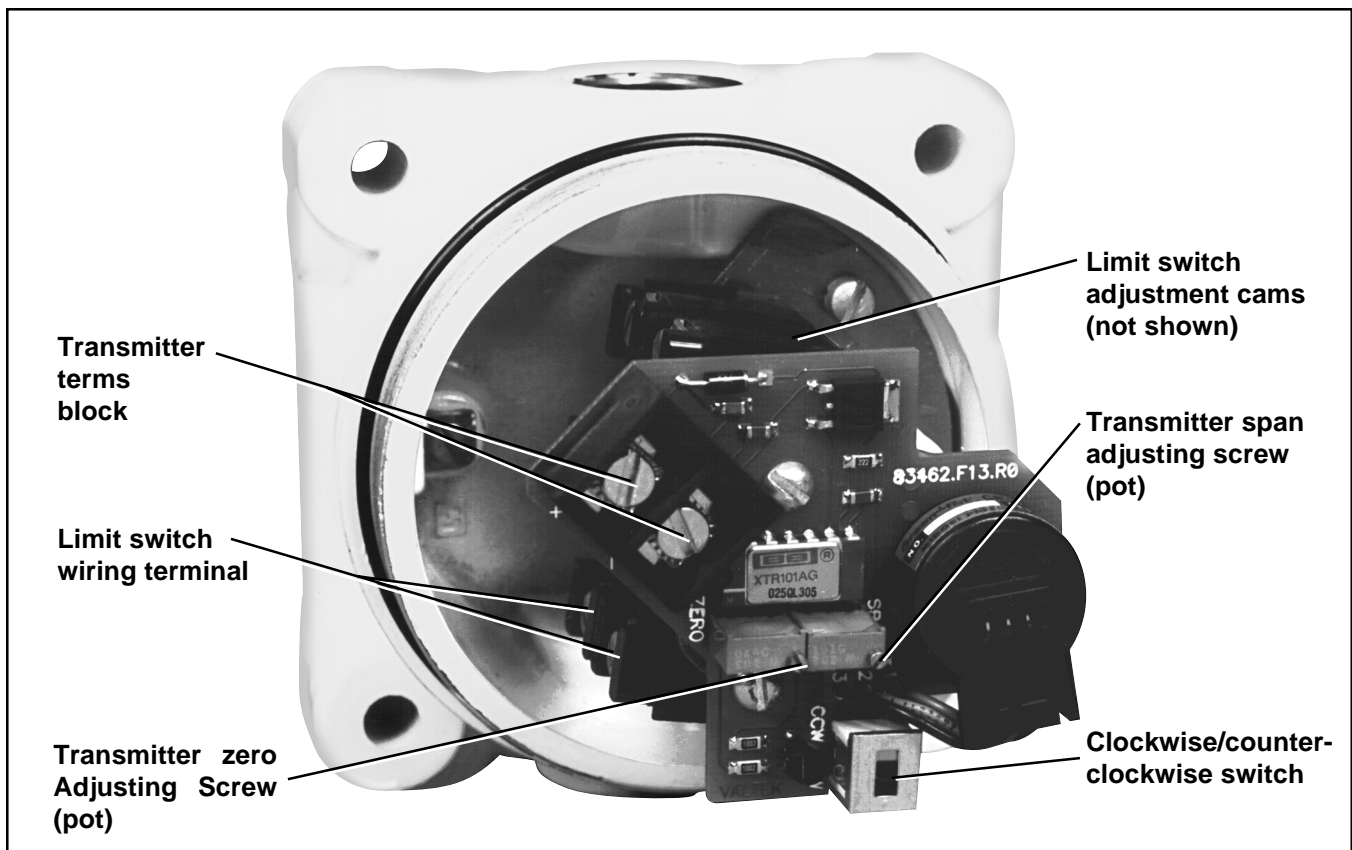

Figure 5: Calibration Points
When a Position Pac is installed in the field or a factory installed unit needs to have output signal adjustments made, refer to Figure 5 and proceed as follows:
5. Referring to Figure 5, adjust the ZERO adjusting screw with a small, straight end screw driver, until the meter reads 4 mA DC.
The following instructions should be used when the signal being transmitted from the position transmitter is either incorrect or needs to be reversed. Refer to Figure 5.